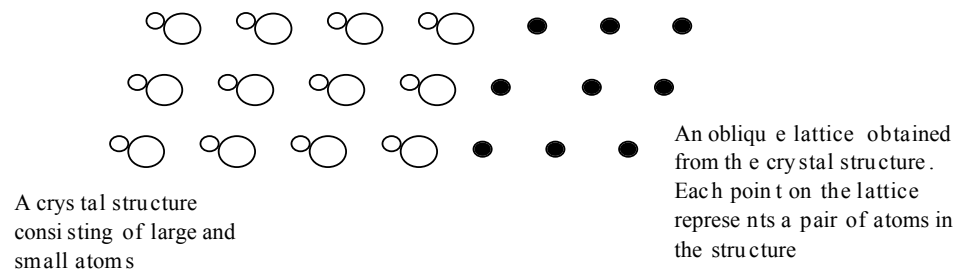

Figure 1.2 : A lattice constructed from a crystal structure
- (d) Consider an example given in Fig. 1.2 of how a lattice is constructed from a crystal structure